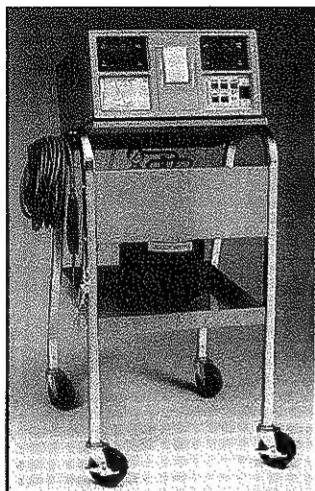

FIGURE 3:
1. An optional equipment stand such as the one shown in FIGURE 3 provides a sturdy, stable mounting surface, while at the same time providing good mobility. This figure illustrates the recommended mounting configurations. Consult your dealer or tool representative for more information on stands.